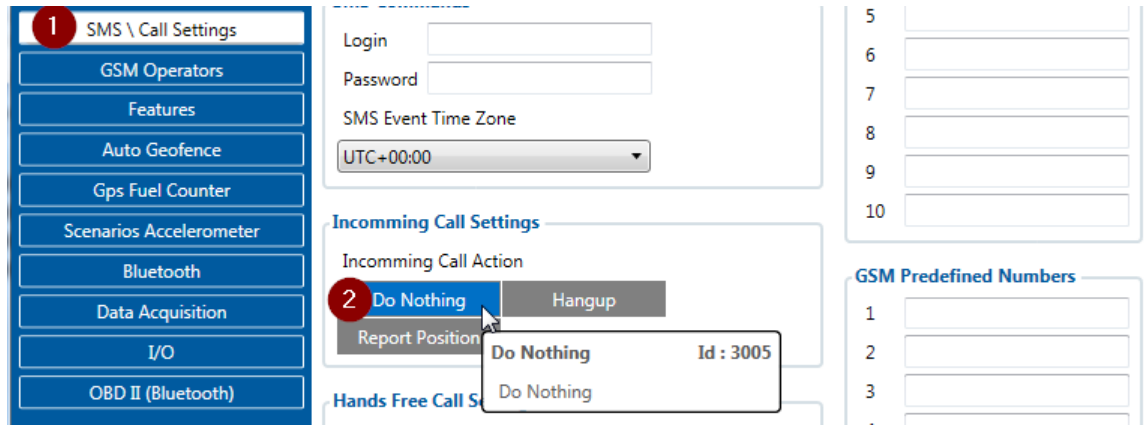

Figure 3. Incomming Call Action settings.
9. Go to “**SMS \ Call Settings**” in left menu and set “**Incomming Call Action**” to “**Do Nothing**” visible at **Figure 3**.